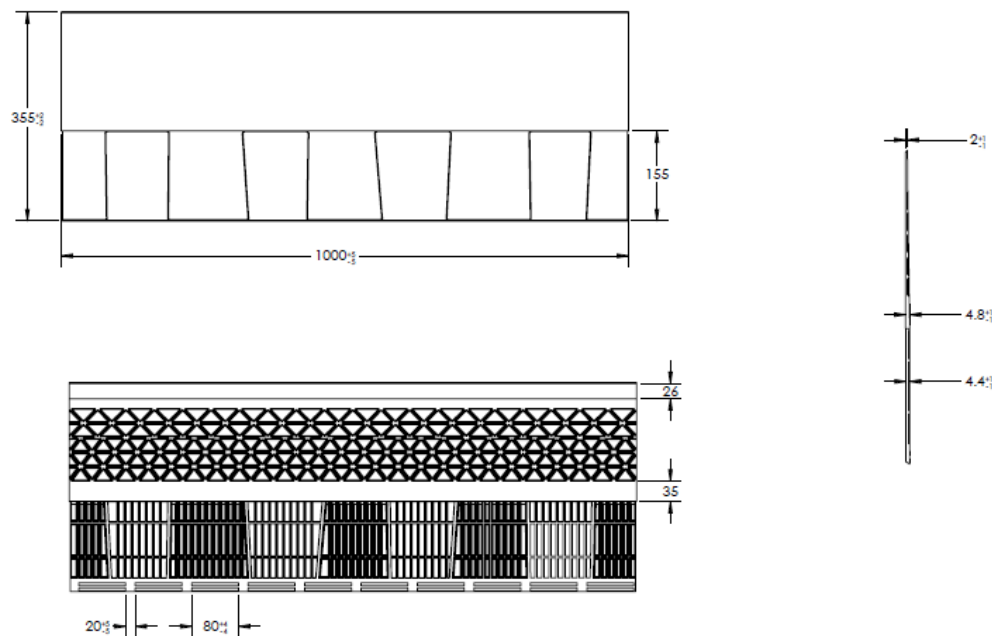

FIGURE 1 – REVIA PERFORMANCE ARCHITECTURAL ROOFING SHINGLE - FRONT, PROFILE, BACK, AND DETAILS
*REVIA Synthetic Roofing Shingles* are non-asphaltic, granular-free, single-piece products molded from a proprietary blend of synthetic polymer materials to simulate an architectural asphalt, or slate shingle. The nominal size of each shingle is 39-3/8 inches long x 14 inches wide. Shingles and slate shingles are manufactured in various colors. See Figures 1, 2, 3, 4, and 5.